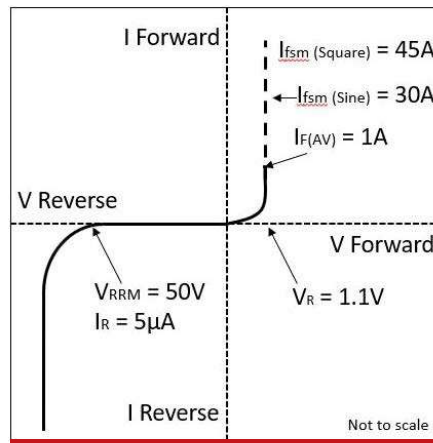

Figure 3: IN4001 voltage vs current (V-I) plot.
- $I_F (AV) = 1.0 A$ The average forward current this diode can operate at is 1 A.
- Plotting these numbers shows a diagram of the diode's current flow. See **Figure 3**.